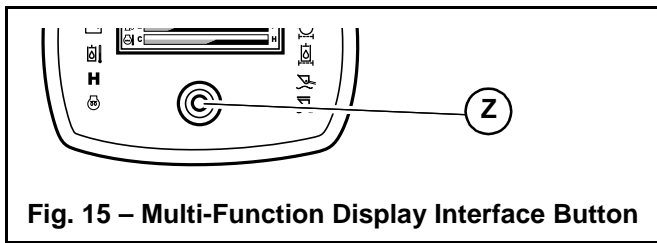

Fig. 15 – Multi-Function Display Interface Button
1. Hold down the interface button (Z, Fig 15) on the multi-function display for 5 seconds.